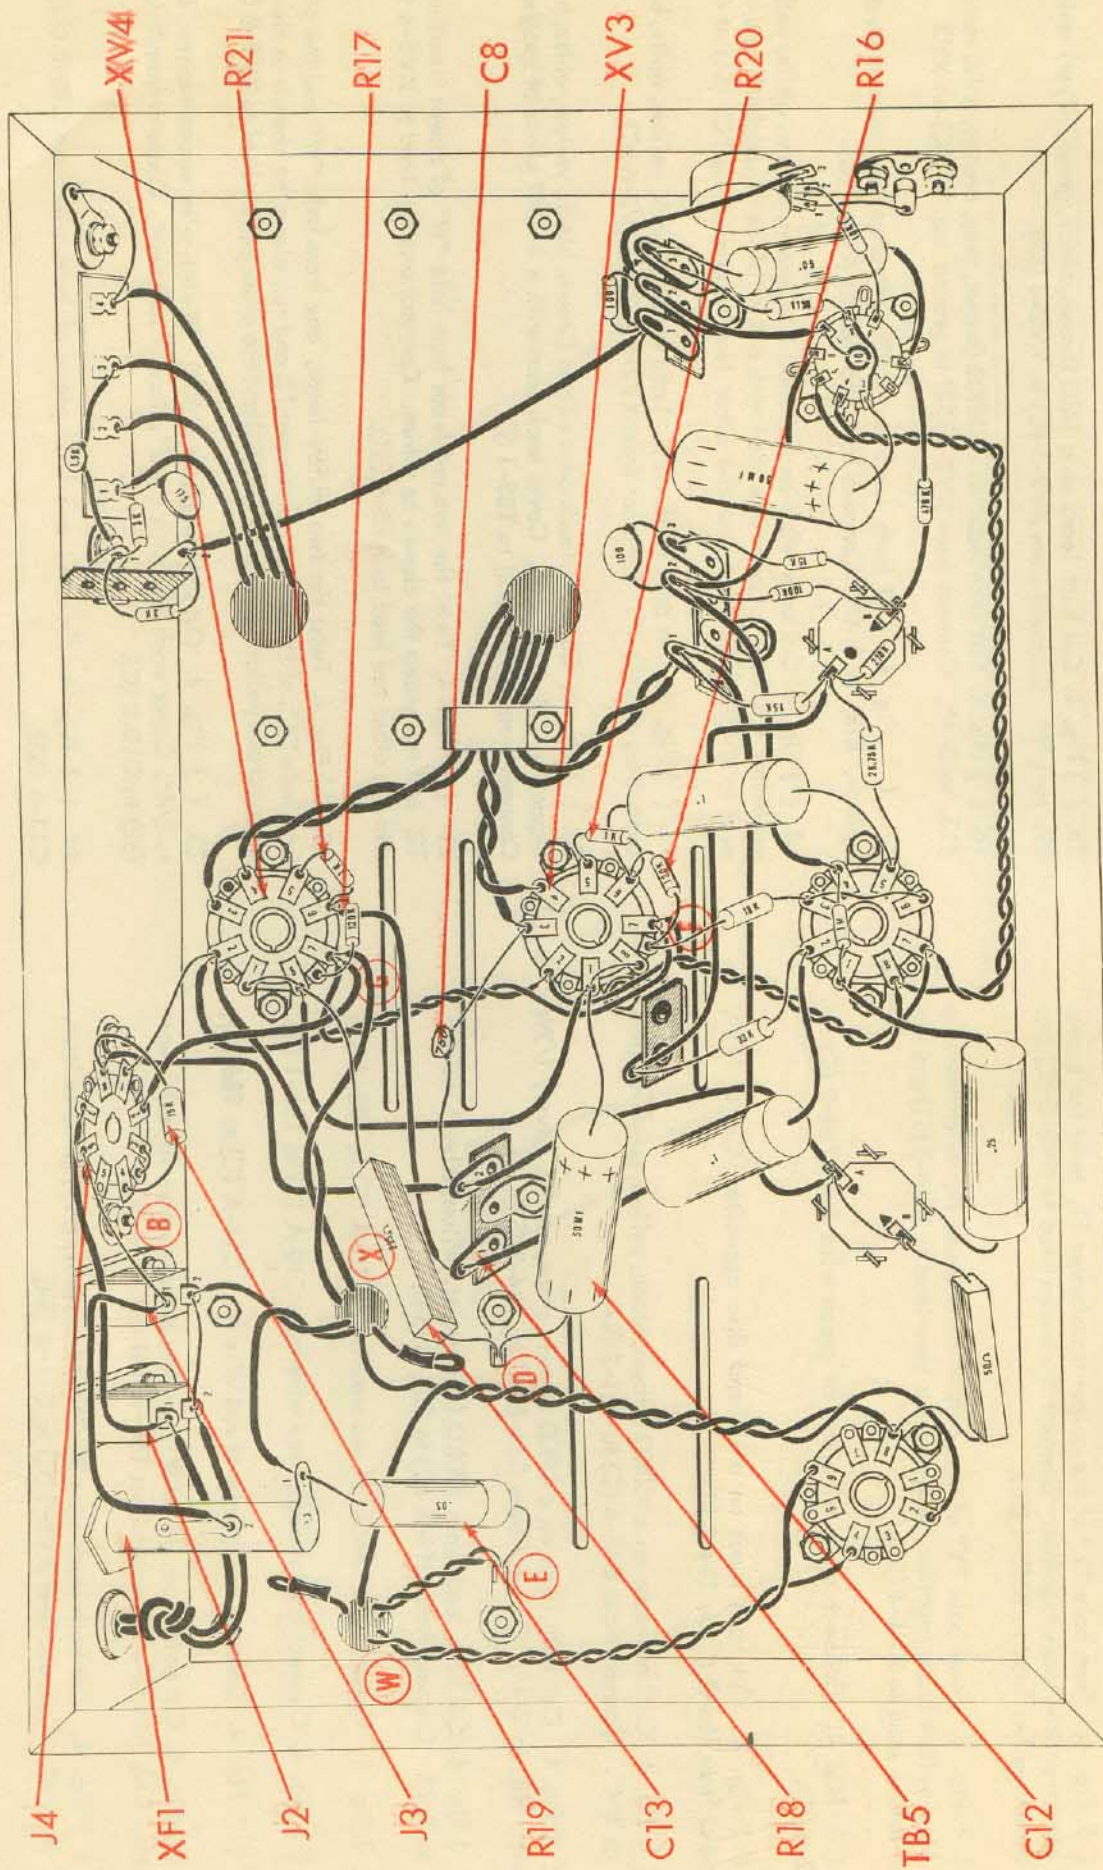

Fig. 5
1. () Fig. 5. Connect the white and the red-yellow leads from hole "W" to ground lug "E" (C).
2. () Fig. 5. Connect the black lead from hole "X" to J3-2 (C).
3. () Fig. 5. If your line voltage is normally below 122 volts, connect the red-black lead to XF1-1 (C), and tape up the green-black lead as shown. If your line voltage is normally above 122 volts, connect the green-black lead to XF1-1 (C) and tape up the red-black lead as shown.
4. () Fig. 5. Cut both leads on a .03mfd (orange, black, orange, black, blue) capacitor, C13, to 1". Connect from XF1-1 (S2) to ground lug "E" (S3).
5. () Fig. 5. Cut both leads on a 750mmf capacitor, C8 to 3/4". Connect one lead to TB5-2 (C) and the other to XV3-3 (S2).
6. () Fig. 5. Connect a 5" piece of yellow wire from XV4-8 (C) to XV3-1 (C).
7. () Fig. 5. Connect a 5 1/2" piece of green wire from TB5-1 (S2) to XV4-6 (C).
8. () Fig. 5. Connect a 4 1/2" piece of red wire from TB5-2 (S3) to J4-8 (C).
9. () Fig. 5. Twist the two green leads from hole "X" on the power transformer T2, as shown. Connect one lead to XV4-7 (C) and the other lead to XV4-2 (C).
10. () Fig. 5. Connect a 1 1/4" piece of bare wire from XV4-2 (S3) to J4-1 (S1).
11. () Fig. 5. Connect a 3" piece of brown wire from XV4-7 (S3) to J4-2 (S1).
12. () Fig. 5. Connect a 3/4" piece of bare wire from J4-3 (S1) to ground lug "B" (S1) on J4.
13. () Fig. 5. Cut both leads on a 15K Ω (brown, green, orange, silver) 1 watt resistor, R19, to 1/2". Connect from J4-8 (S2) to J4-4 (S1).
14. () Fig. 5. Connect a 1 1/2" piece of bare wire covered with a 1" piece of spaghetti from J4-6 (S1) to J3-1 (C).
15. () Fig. 5. Connect a 3 1/2" piece of yellow wire from J4-7 (S1) to J2-1 (C).
16. () Fig. 5. Connect a 4 1/2" piece of brown wire from J3-1 (S2) to XF1-2 (S1).
17. () Fig. 5. Connect a 1 1/4" piece of bare wire from J2-2 (C) to J3-2 (S2).
18. () Fig. 5. Connect a 1/2" piece of bare wire from XV4-8 (C) to XV4-1 (S1).
19. () Fig. 5. Connect a 1/2" piece of bare wire from XV3-8 (S1) to XV3-1 (C).
20. () Fig. 5. Cut one lead on the 235 Ω resistor, R18, to 1 1/2" and the other lead to 3/4". Cover the longer lead with a 1 1/4" piece of spaghetti and connect to XV4-8 (S3). Connect the other lead to ground lug "D" (C). Dress this resistor flat against the chassis. Dress all leads away from this resistor.
21. () Fig. 5. Cut both leads on a 50 mfd, 50 volt, electrolytic capacitor C12 to 1 1/4". Connect the positive (+) lead to XV3-1 (S3) and the negative lead to ground lug "D" (S2).
22. () Fig. 5. Cut all leads on two 1K Ω (brown, black, red, silver) resistors, R20 and R21, to 1/2". Connect one resistor, R20 from XV3-6 (C) to XV3-5 (S1) and the other resistor, R21 from XV4-6 (C) to XV4-5 (S1).
23. () Fig. 5. Cut all leads on two 120K Ω (brown, red, yellow, silver) resistor, R16 and R17, to 3/4". Connect one resistor, R16, from XV3-6 (S3), to ground lug "F" at XV3 (S2). Connect the second resistor, R17, from XV4-6 (S3) to ground lug "G" at XV4 (S1). In both cases, be careful not to burn the wires passing near the ground lugs.
24. () Fig. 5. Pass the tinned leads from the line cord through the grommet at the rear of the chassis. Make a knot 3/4" from the end of the solder lead, so that the line cord cannot be pulled through the grommet. Connect one tinned lead to J2-1 (S2) and the other tinned lead to J2-2 (S2).